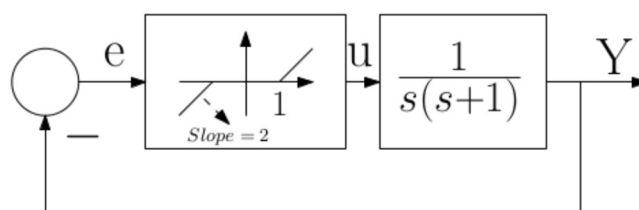

fig.3
4. Consider the system shown figure 3. Using the describing function analysis, investigate the possibility of a limit cycle. If a limit cycle is predicted, determine its amplitude and frequency and investigate its stability.